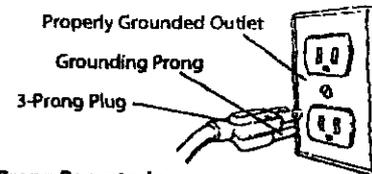

Figure 2 – 3-Prong Receptacle
- Slide $\frac{1}{8}$ "-18" carriage bolt (A) into square hole in tool rest bracket (B). Slide spacer (Q) onto carriage bolt. Slide carriage bolt with bracket into hole on inside of tool rest (E) as shown in Figure 2. Slide $\frac{1}{16}$ " flat washer (F) and $\frac{1}{8}$ "-18 hex nut (G) onto carriage bolt. Tighten nut finger tight.
- Remove $\frac{1}{8}$ " hex nut (D) and flat washer (C) from $\frac{1}{8}$ "-16 x 1 1/4" hex bolt (H) mounted to bottom front of left wheel guard.
- This grinder is equipped with an approved 3-conductor cord rated at 300V and a 3-prong, grounding type plug (See Figure 2) for your protection against shock hazards.
- Grounding plug should be plugged directly into a properly installed and grounded 3-prong grounding-type receptacle (See Figure 2).